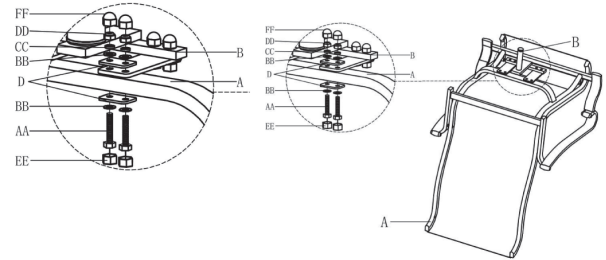

Figure 1
Step 1. Carefully place the table top (A) upside down on a non-abrasive surface.
Step 2. Assemble the table legs (B) to the table top (A) with bolts (E&F) and washer (G) as shown in figure 1.
Step 1. Carefully place the chair frame (A) upside down on a non-abrasive surface. Assemble the T rocker (B) to the chair frame (A) with steel panel (D) and bolts (AA) and washers (BB) and M8 Spring gasket (CC) and M8 Nut (DD) by using open wrench (GG), then cover the bolts with bolt covers (EE and FF) as show in Figure 1.